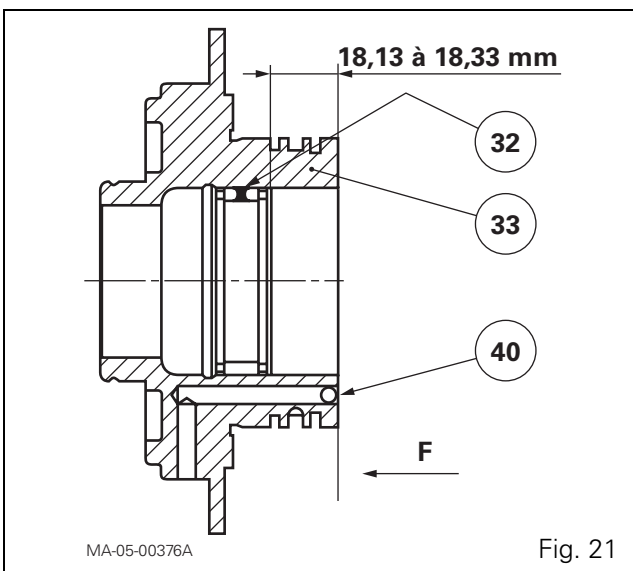

Fig. 21
63. If work is necessary on the ring carrier (33):
- check that the channels are not blocked and that the ball bearing (40) is correctly crimped in its port (Fig. 21). If necessary, fit the needle roller bearing (32) 18.13 to 18.33 mm from face "F" (Fig. 21);
- fit and tighten screws (34) and (41), lightly smeared with Loctite 242 or similar, to a torque of 25 - 35 Nm.
64. Check that the lubrication holes on the shaft (36) are not blocked.
66. Refit the washer (38) and circlip (37).